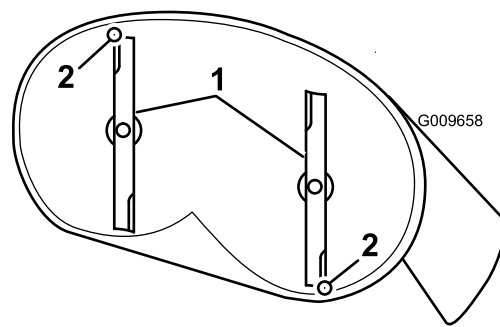
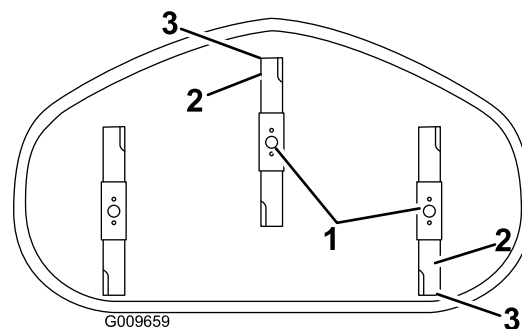

Figure 54
Figure 55
5. Measure from the tip of the front blade to the flat surface and the tip of the rear blade to the flat surface (Figure 54 and Figure 55).
4. Carefully rotate the blades so they are facing front to rear (Figure 54 and Figure 55).
9. After adjustment, check the front-to-rear slope again, continue adjusting the nut until the front blade tip is 1.6 to 7.9 mm (1/16 to 5/16 inch) lower than the rear blade tip (Figure 54 and Figure 55).